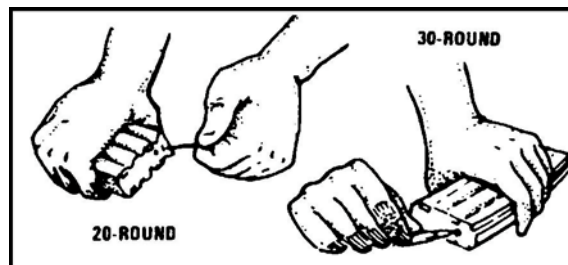

Figure 40. Releasing the base catch of the magazine.
- a. Release the base catch (Figure 40).